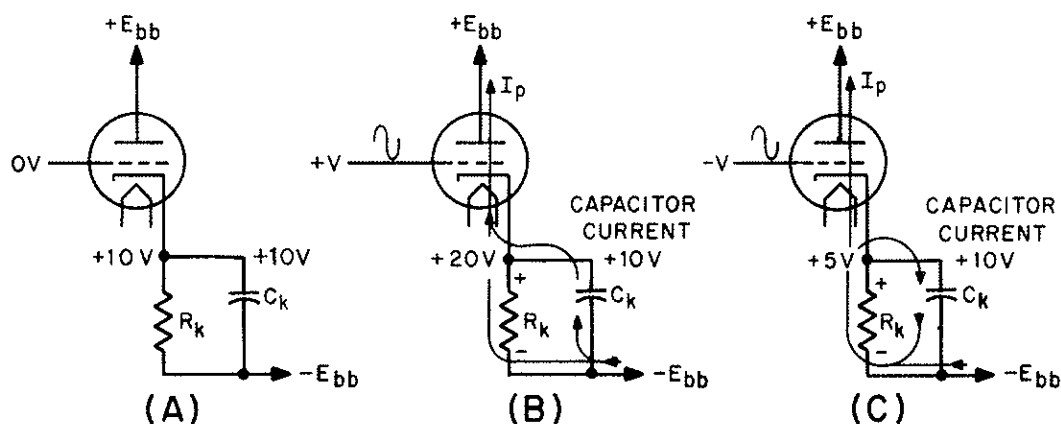

Figure 1-23.—Effect of the bypass capacitor.
The action of C_k will be explained using figure 1-23. View (A) shows the circuit under quiescent conditions. With some conduction through the tube, the cathode and tops of R_k and C_k are at +10 volts.